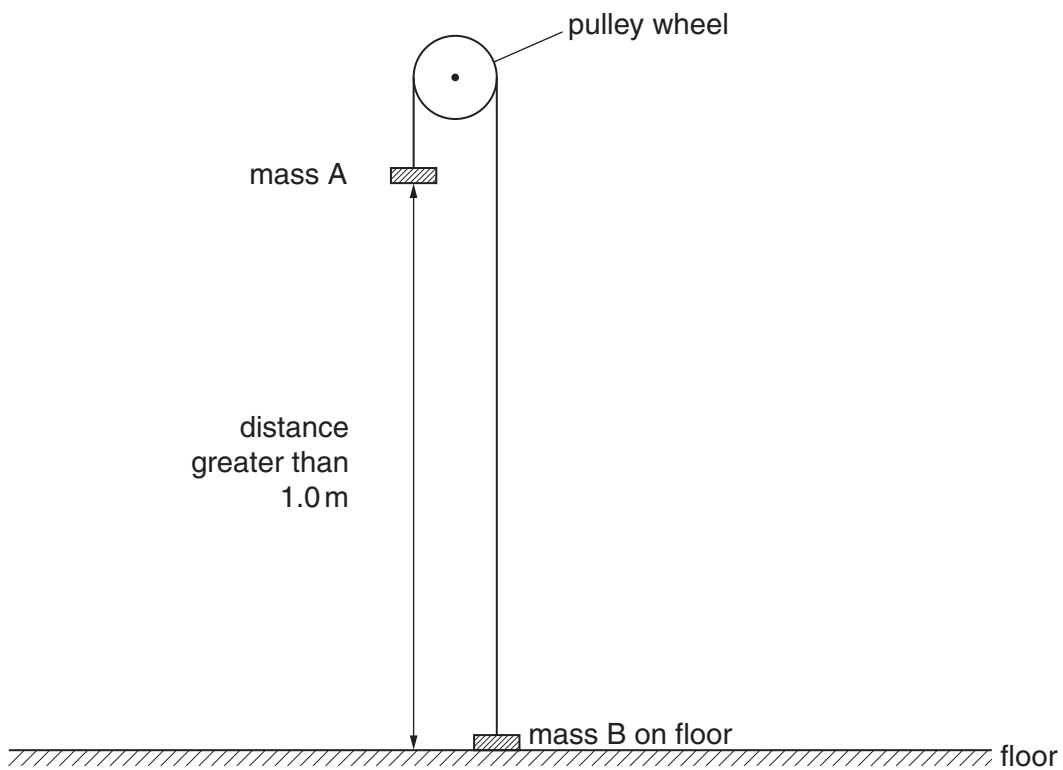

Fig. 2.1
(i) Supervisors should assemble the apparatus as shown in Fig. 2.1.
- (iv) At the changeover, the Supervisor should check that the apparatus is still set up as shown in Fig. 2.1.